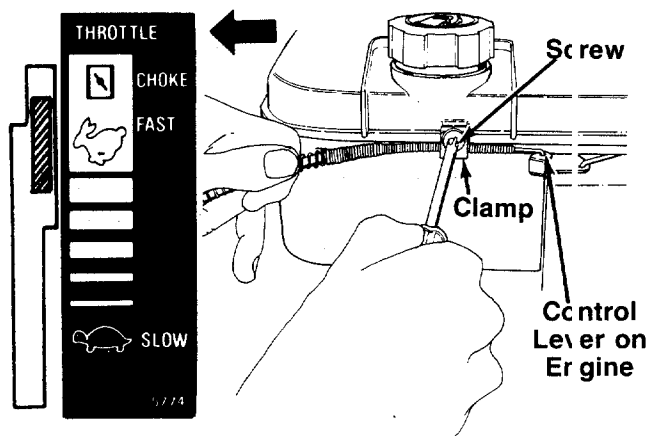

FIGURE 6B.—Models 414R & 424R
1. Push the throttle control lever on the handle all the way forward to CHOKE, then back it off **two "clicks"** (approximately 5/16"). See figure 6B.
2. The throttle control cable is attached to the upper handle. Route the throttle control cable under the lower handle and inside the handle mounting bracket. Hook the "Z" end of the throttle control cable into the hole in the control lever on the engine. See figure 6B.
3. Using a screwdriver, remove the screw on the cable clamp shown in figure 6B. Slip the control cable under the clamp. Replace the screw, but do not tighten (cable must still move freely beneath the clamp).
4. Push the control lever on the engine as far toward the **rear** of the engine as it will go. See figure 6B. Pull the throttle control cable toward the rear of the engine to remove any slack in the cable as you tighten the screw.